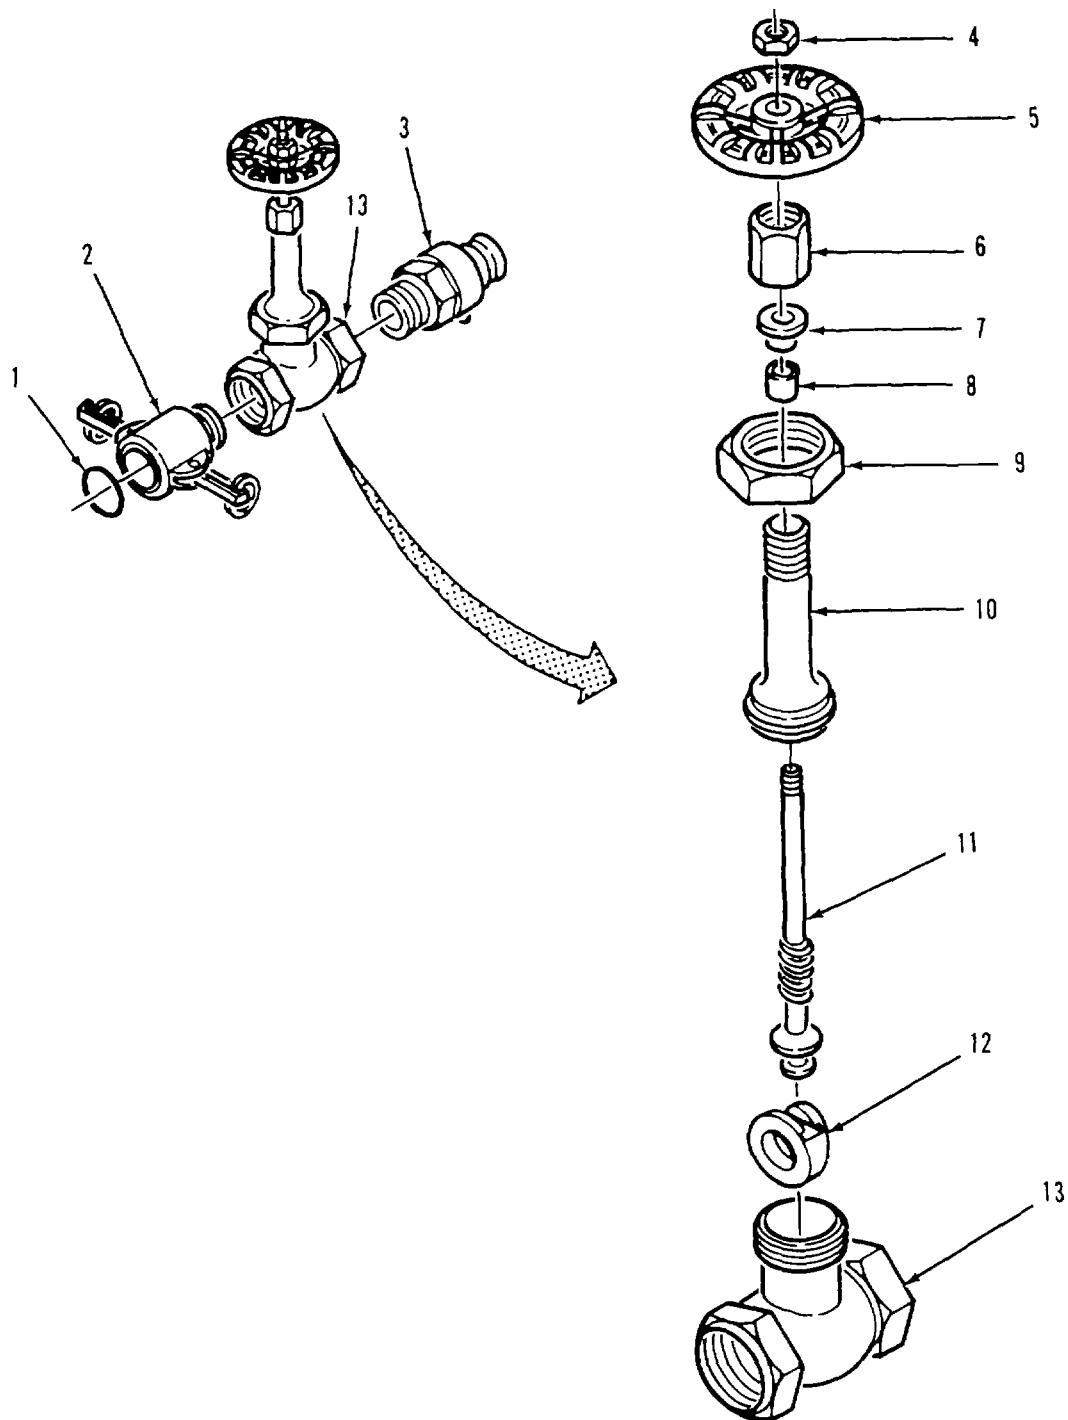

Figure 4-5. Gate Valve Assembly (2-inch) Repair.
a. Disassembly. Refer to figure 4-5.
- (1) Clamp gate valve body (13) in vise
- (2) Remove gasket (1) from female coupling (2)
- (3) Using pipe wrench, unscrew female coupling (2) from valve body (13).
- (4) Using pipe wrench, unscrew male coupling (3) from valve body (13).
- (5) Turn handwheel (5) fully clockwise to close valve.
- (6) Remove handwheel nut (4) and handwheel (5) from stem (11).
- (7) Using pipe wrench, remove bonnet ring (9) from valve body (13) Lift bonnet (10) and attached parts from valve body
- (8) Slide disc (12) from end of stem (11).
- (9) Unscrew packing nut (6) from bonnet (10).
- (10) Remove packing gland (7) and packing (8) from bonnet (10)